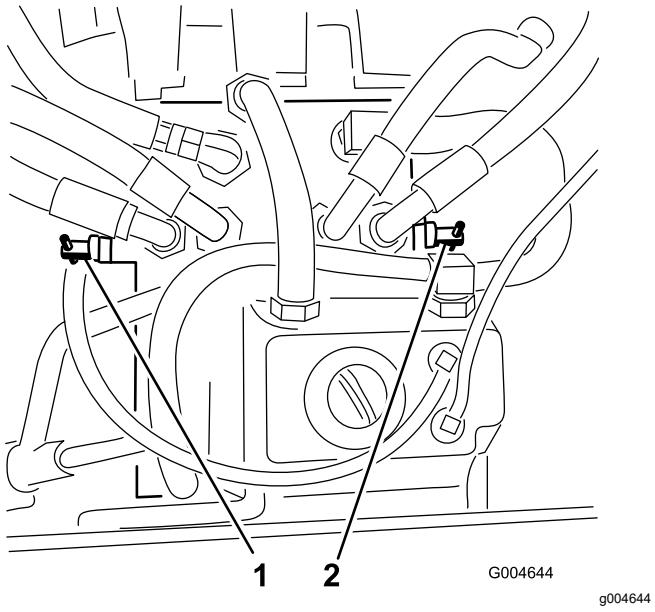

Figure 27
- Locate the bypass valves (Figure 27) and rotate each bypass valve counterclockwise 1 turn.
4. Close the valves by rotating each valve 1 clockwise turn (Figure 27).